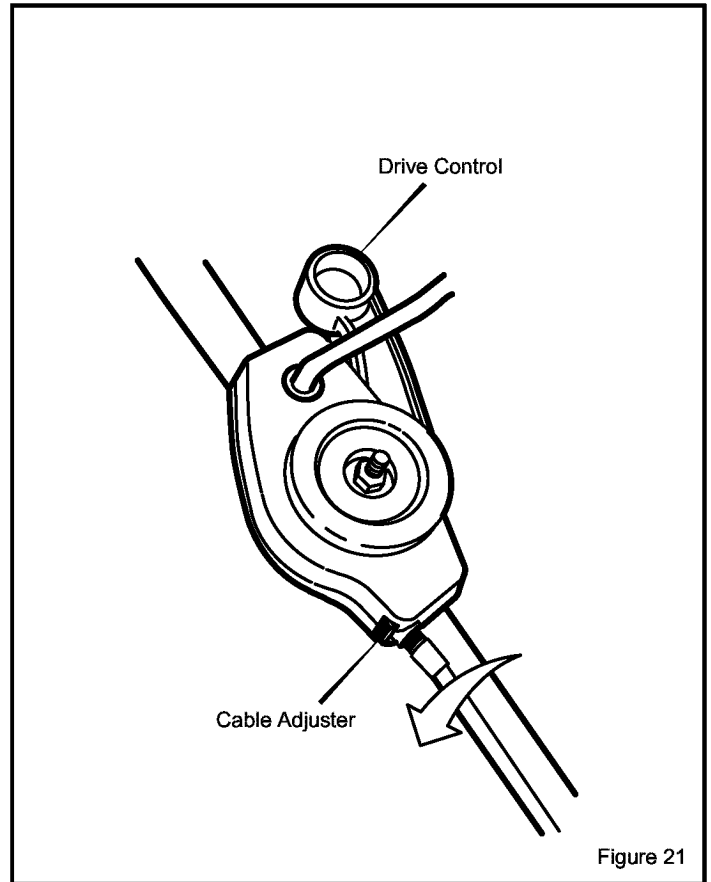

Figure 21
3. Turn the **cable adjuster** one turn in the direction shown in Figure 21.
11. If you replace the **mower drive belt**, turn the cable adjuster in the **OPPOSITE** direction as shown in Figure 21. Turn the cable adjuster until all the adjustment that was set with the old belt has been removed.